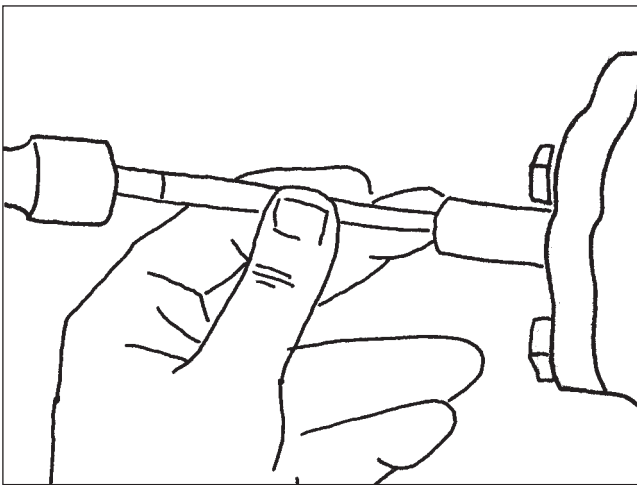

Figure 39
4. Raise the steer tires until the tires clear the surface. Start the engine and allow it to run at idle speed.(Figure 39).